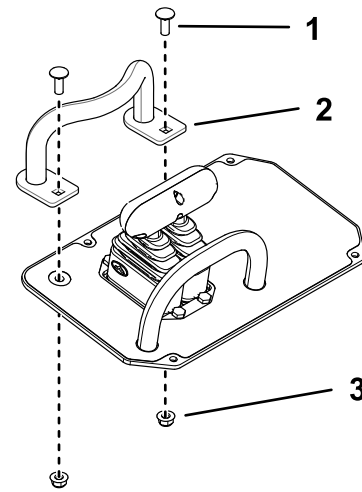

Figure 23
4. Install the new handle using 2 bolts and 2 nuts (Figure 23).